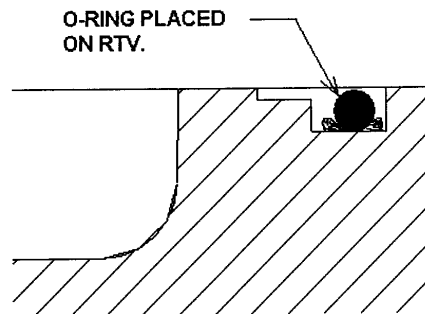
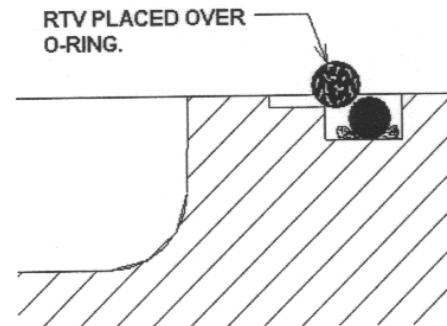

Figure 15
Figure 16
- 4.6.5.2 Install the O-rings (I.D. and O.D.) on top of the sealant, working them into position so that they lay flat in the bottom of the groove. See Figure 15. A second bead of sealant .060"-.090" (1,5mm - 2,3mm) in size should then be applied in the shallow groove. See Figure 16.